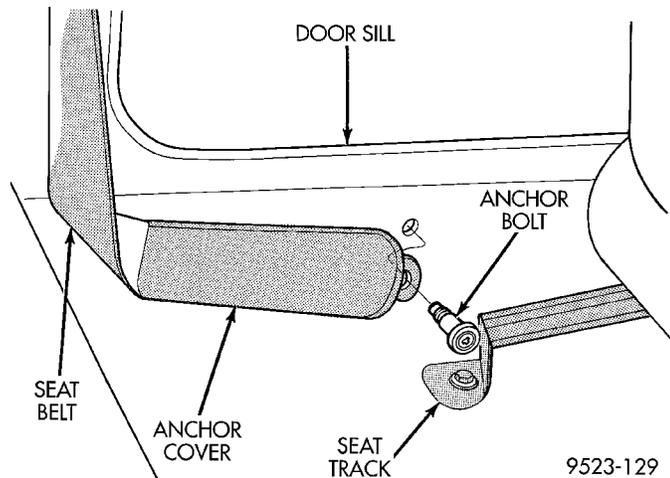
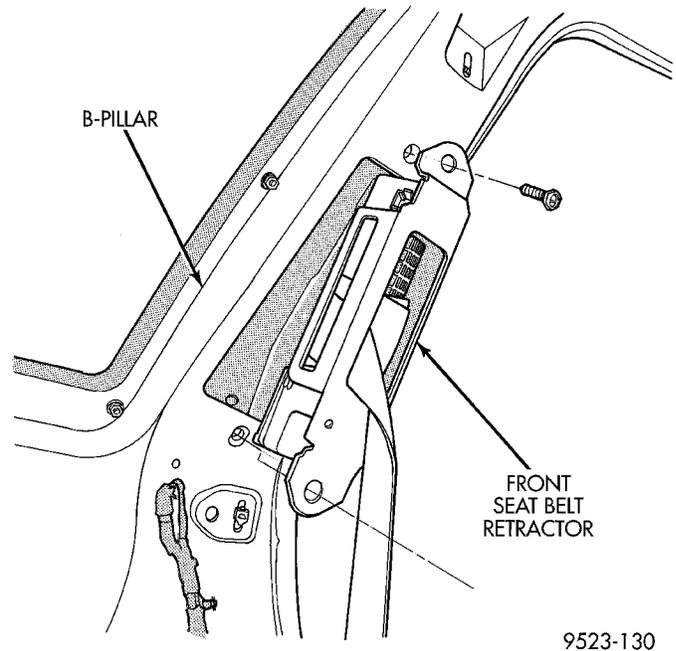

Fig. 63 Front Outboard Seat Belt Anchor
Fig. 64 Front Outboard Seat Belt Retractor
- (1) Slide lower seat belt anchor cover upward to expose bolt.
- (2) Remove bolt holding lower anchor bolt to floor below door sill (Fig. 63).
- (3) Separate lower anchor from floor.
- (4) Remove rear seat cushion and back.
- (5) Remove quarter trim panel.
- (6) Guide seat belt webbing through slot in quarter trim panel.
- (7) Disengage wire connector from seat belt retractor.
- (8) Remove bolts holding seat belt retractor to B-pillar (Fig. 64).
- (9) Separate seat belt retractor from vehicle.